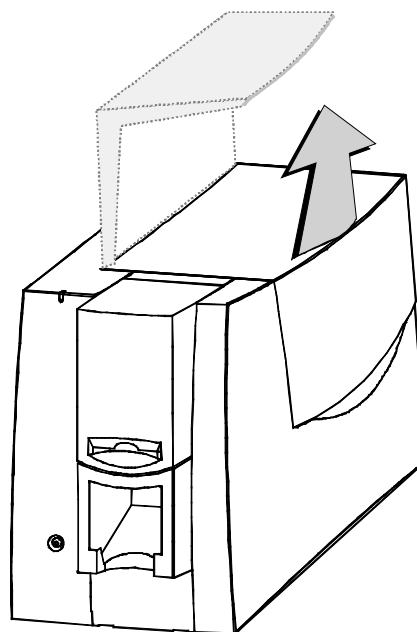

Figure 2-5: Open the cover
- 1 Lift the top cover, as shown in Figure 2-5.